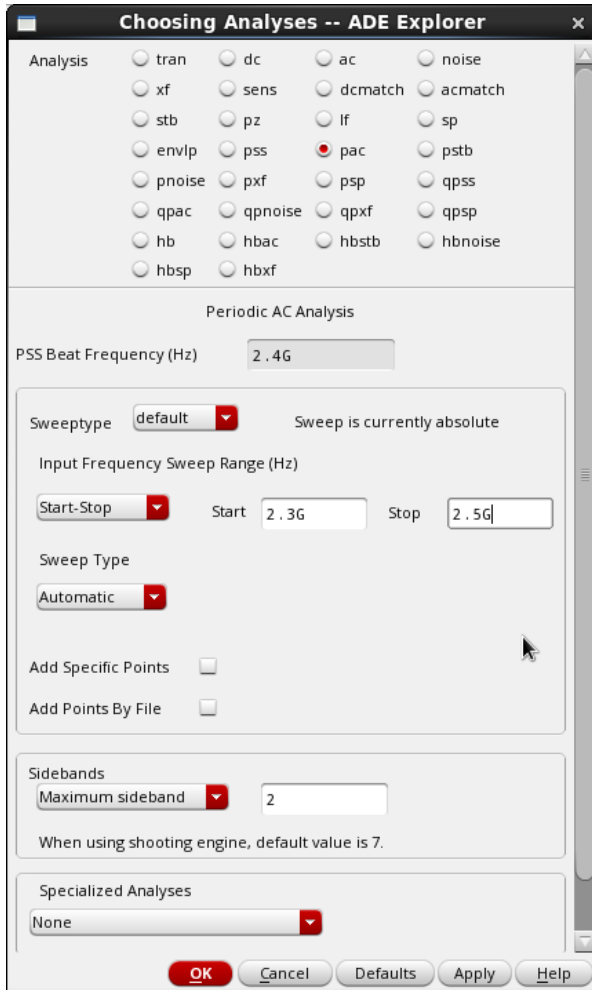

Fig. 13
- Change PAC setup according to Fig. 13. This way the simulation tool sweeps RF frequency from 2.3 to 2.5 GHz.